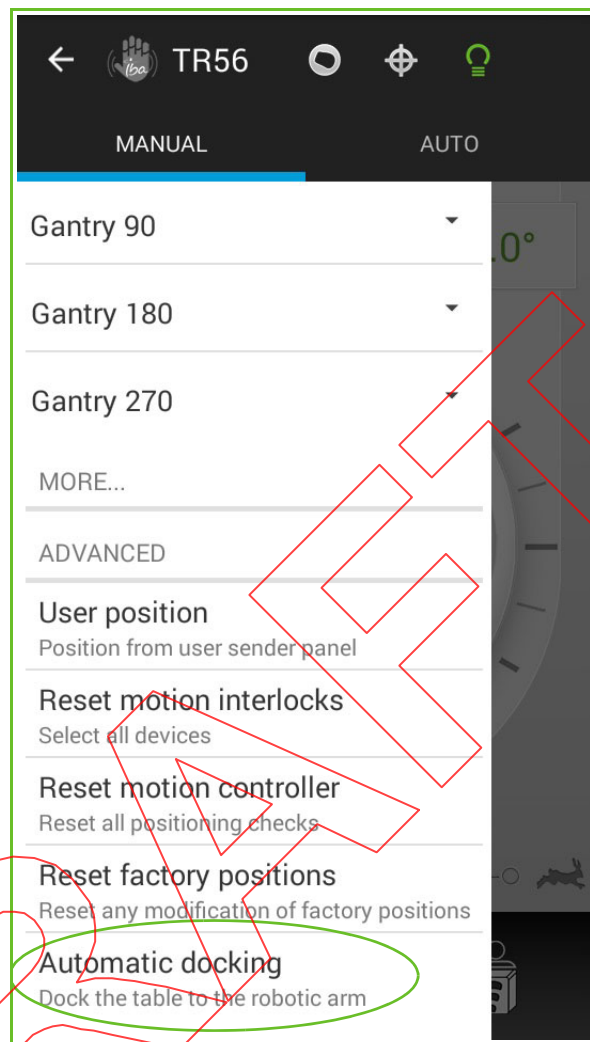
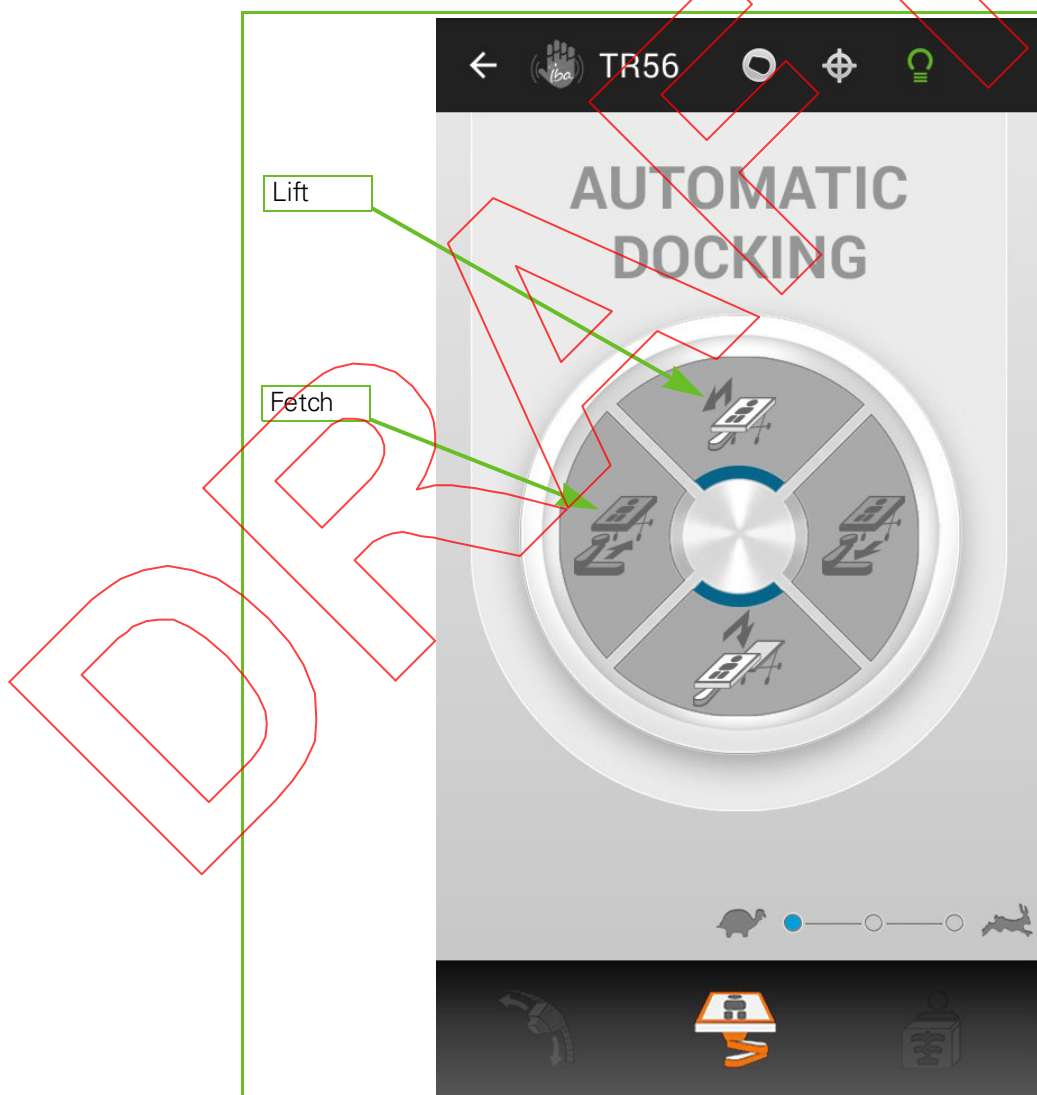

Figure 13-11. Advanced Menu
Figure 13-12. Automatic Docking Screen
4. Select the Automatic Docking option from the ADVANCED MENU (see Figure 13-11). The AUTOMATIC DOCKING SCREEN appears (see Figure 13-12).
6. Click the **Fetch** icon from the AUTOMATIC DOCKING SCREEN (see Figure 13-12).
12. Click the **Lift** icon from the AUTOMATIC DOCKING SCREEN (see Figure 13-12).
2. Select the Automatic Docking option from the ADVANCED MENU (see Figure 13-11). The AUTOMATIC DOCKING SCREEN appears (see Figure 13-12).
8. Click the **Release** icon from the AUTOMATIC DOCKING SCREEN (see Figure 13-12).
2. From the AUTOMATIC DOCKING SCREEN (see Figure 13-12), select the docking or undocking function that was interrupted.